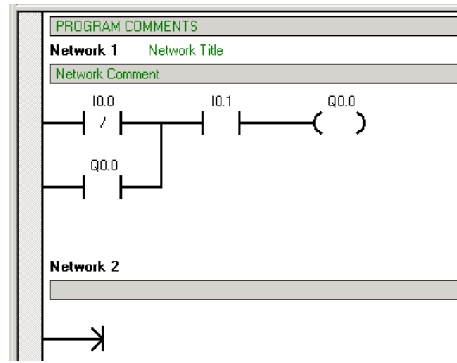
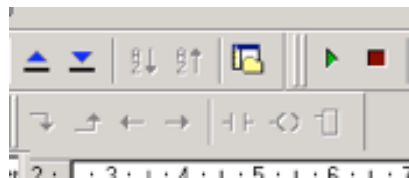

Figure 6.2 The ladder diagram for the sump pump
Figure 6.3 Important icons
you can build up the ladder diagram shown in Figure 6.2. In Figure 6.3 the arrow icons allow you to insert connections and the next two icons allow you to insert contacts and coils. After inserting each item you should name it to identify which component it corresponds to in the PLC.
- 3) After completing the ladder diagram you then DOWNLOAD it to the PLC (WARNING if you accidentally click on the upload icon you will delete your program. Make sure that the PLC is in RUN mode (switch under the little door on the PLC). Therefore, it is a good idea to save your program before downloading). Download by clicking on the underlined downward facing arrow shown in Figure 6.3. Confirm downloading in the window that pops up.
- 4) Switch the PLC to run mode (green right-facing arrow in Figure 6.3).